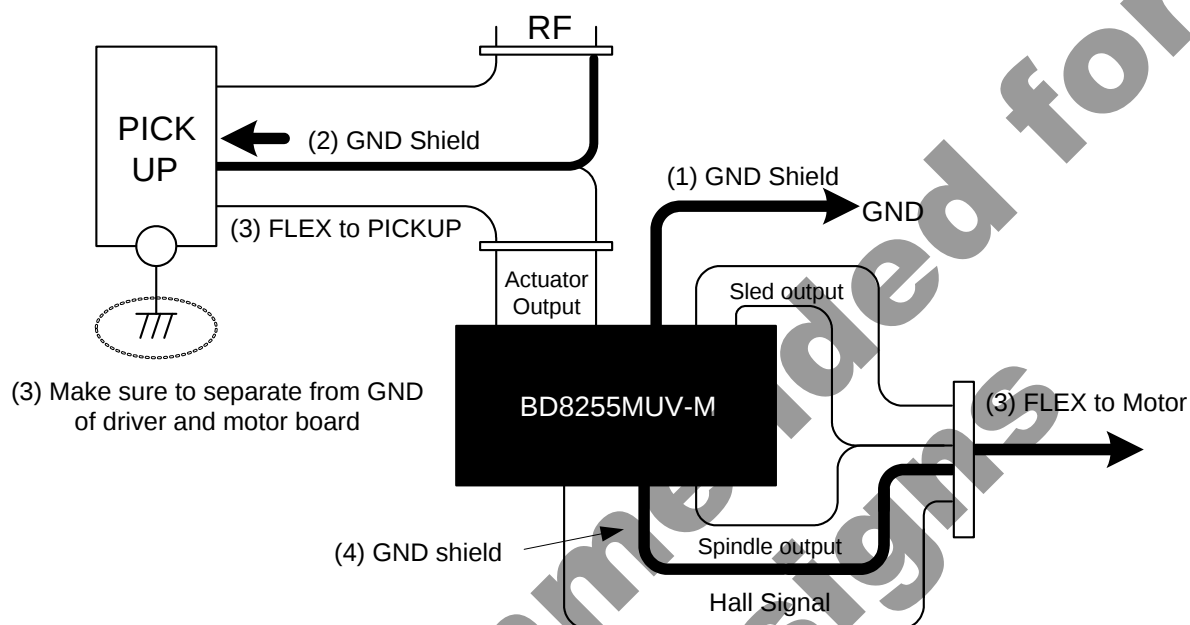

Figure 29: RF Noise Suppression
- Countermeasures against B - See Figure 29. -
- (1) Ensure certain distance between RF signal line and PWM-driven output line. If they must be located inevitably too close, shield the RF signal line with GND except the stable GND.
- (2) Like in (1), flexible cable to the pickup should be shielded with GND in order to separate noise between the signal line and the actuator drive output line.
- (3) Connect the motor system and the actuator system to separate flexible cables.
- (4) As FG pulse is generated from hall signal, provide a shield with stable GND or other wire with low impedance between the PWM output and the hall signal so that noise is not radiated from the flexible cable and the board pattern.